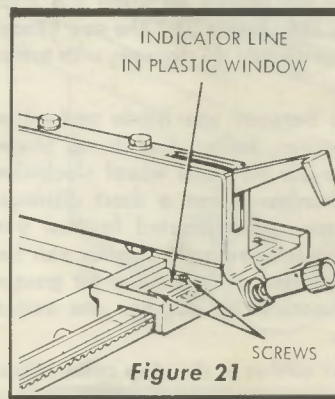

Figure 21
- (b) If an adjustment is required, loosen the two screws (one at each end of the window) and shift the plastic window until the indicator line is aligned with the "1" inch line on the scale. (See figure 21.) Tighten the two screws and recheck for accuracy. If the plastic window cannot be shifted far enough to provide this alignment, loosen the screws that secure the guide-bar scale to the guide-bar at its ends, shift the scale slightly and tighten the screws. Then proceed to adjust the plastic window as described above.